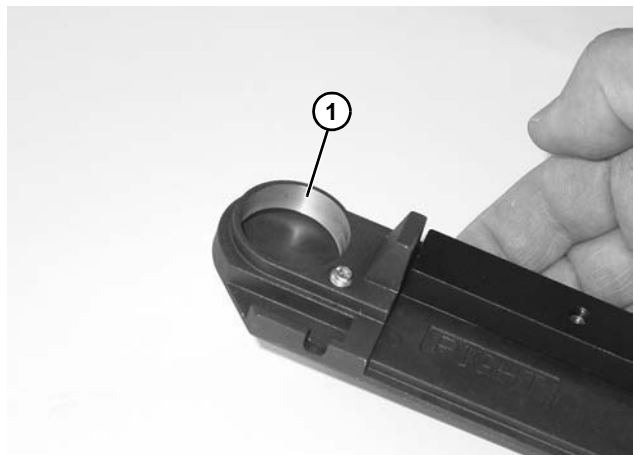

Figure 57
1. Inspect the head plates bearing seating surface (**Figure 57, item 1**). If they are worn or damaged, replace the head. See “Service Parts” beginning on page 32.